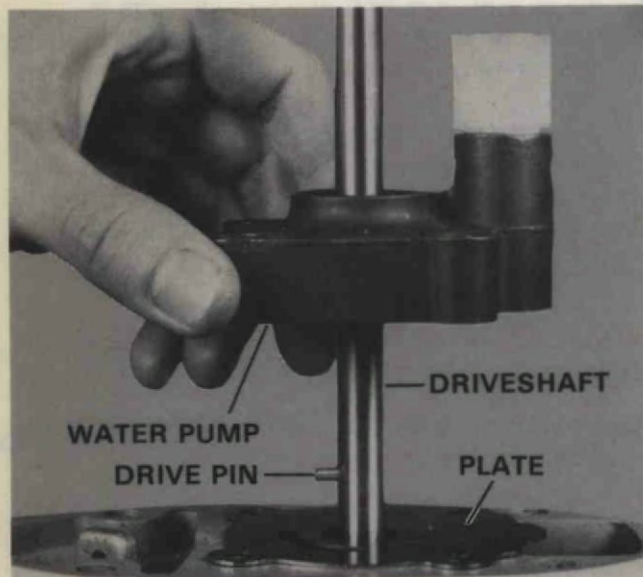

Figure 45. Removing Water Pump.
- Remove four (4) cap screws, securing pump to upper gear housing. Figure 45.